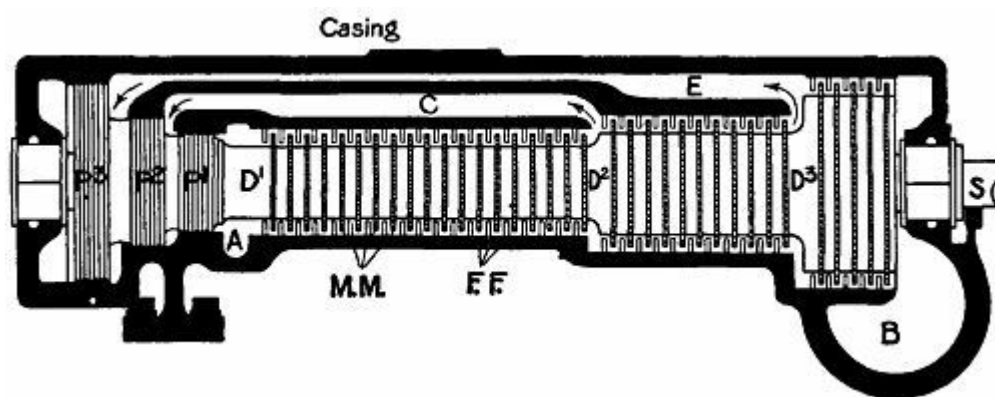

FIG. 37.—Section of a Parsons turbine.
The essential parts of a Parsons turbine are:—(1) The shaft, on which is mounted (2) the drum; (3) the cylindrical casing inside which the drum revolves; (4) the vanes on the drum and casing; (5) the balance pistons. Fig. 37 shows a diagrammatic turbine in section. The drum, it will be noticed, increases its diameter in three stages, D^1 , D^2 , D^3 , towards the right. From end to end it is studded with little vanes, $M\ M$, set in parallel rings small distances apart. Each vane has a curved section (see Fig. 38), the hollow side facing towards the left. The vanes stick out from the drum like short spokes, and their outer ends almost touch the casing. To the latter are attached equally-spaced rings of fixed vanes, $F\ F$, pointing inwards towards